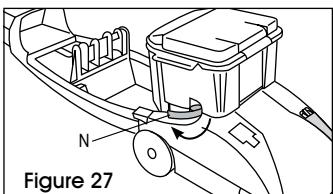

Figure 27
4. Replace tank and press down to ensure that it is properly seated in place. Rotate latches (N) (one on each side of tank) inward to lock tank in place. Raise handle to upright position and replace upper clean solution tank. (See Figure 27)